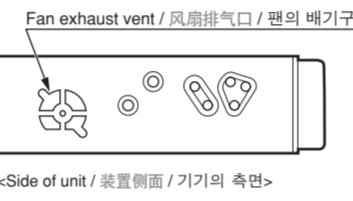

Figure 4 / 圖 4 / 그림 4
5. This unit is equipped with a motorized fan to assist cooling of the internal parts. Take precautions during installation not to allow the fan's exhaust vent to be blocked with cables or other parts, otherwise excessive heating may result in malfunctions. (Figure 4)
5. 本装置配备风扇以防止内部温度过高。若导线或其它物品堵塞电扇排气口, 则可能造成装置故障。因此, 请小心进行接线。(图4)